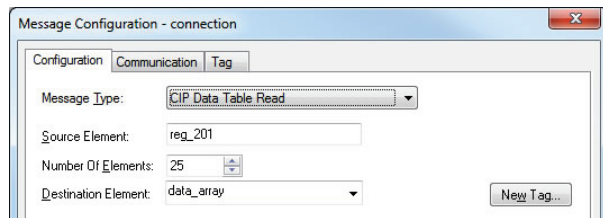

Figure 60: MSG Instruction Configuration
- b) Click the message configuration button (“...”) in the MSG instruction. The “Message Configuration” window will open. Refer to Figure 60.